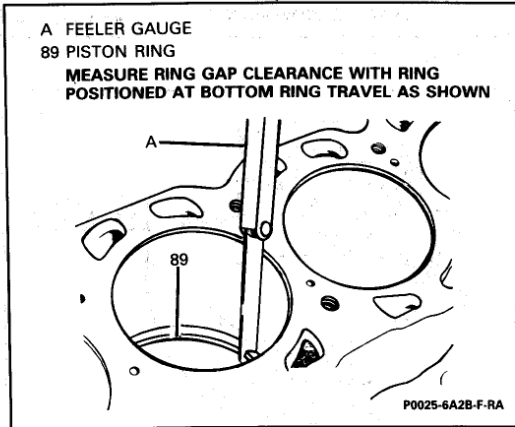

Figure 35 Measuring Piston Ring Gap
- Measure the ring gap (Figure 35). If the gap is below specification, increase the gap by carefully filing off excess material.